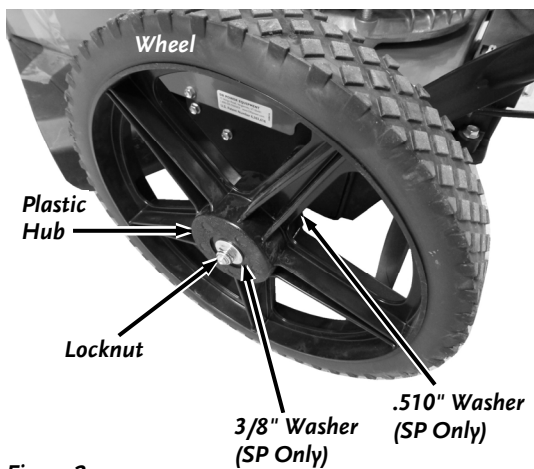

Figure 2
1. Remove the Locknuts (SP and Non SP) and washers (SP) from the Hardware Bag.
2. SP only: Insert a 5/16" X .875" X .1" Washer (#32338) onto the Axle (**Figure 2**).